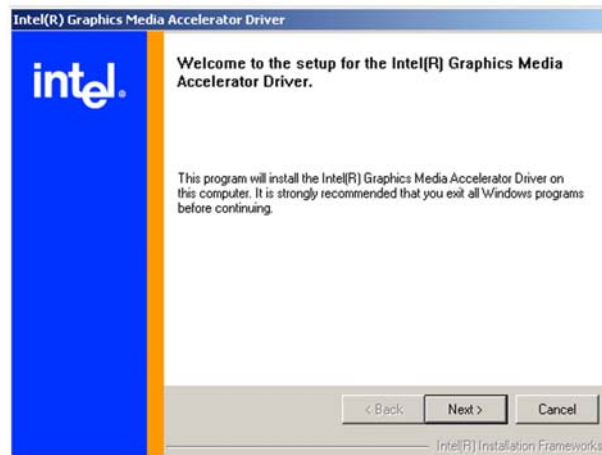

Figure 7-11: GMA Driver Installation Welcome Screen
Step 23: The welcome screen shown in **Figure 7-11** appears.